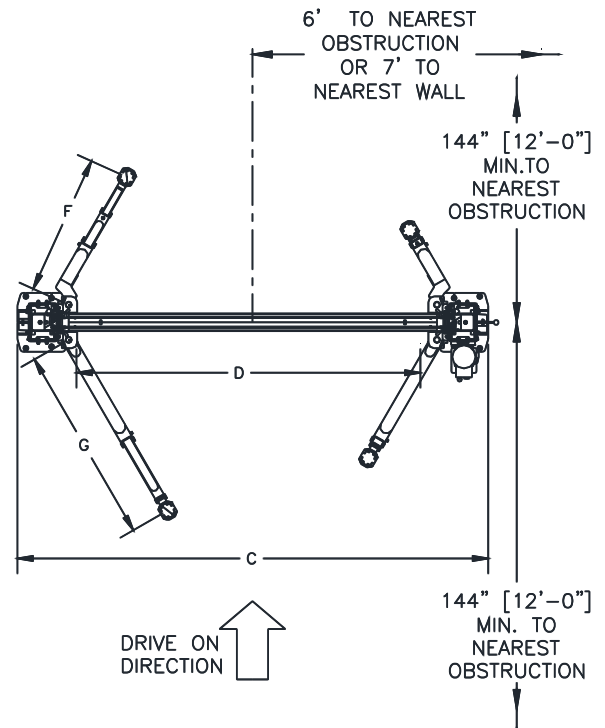

Fig. 1b - Service Bay Layout
- Layout the service bay according to the architect's plans or owner's instructions (**see Fig 1b**). **Failure to install in this orientation can result in personal and property damage.** Be certain that the proper conditions exist, see **Pg 3**.
- Using the Overall Width (C) Dimension from **Fig 1b**, chalk two parallel lines on the floor within 1/8" tolerance. Erect both column assemblies. Align the base plate edges to the chalk lines.